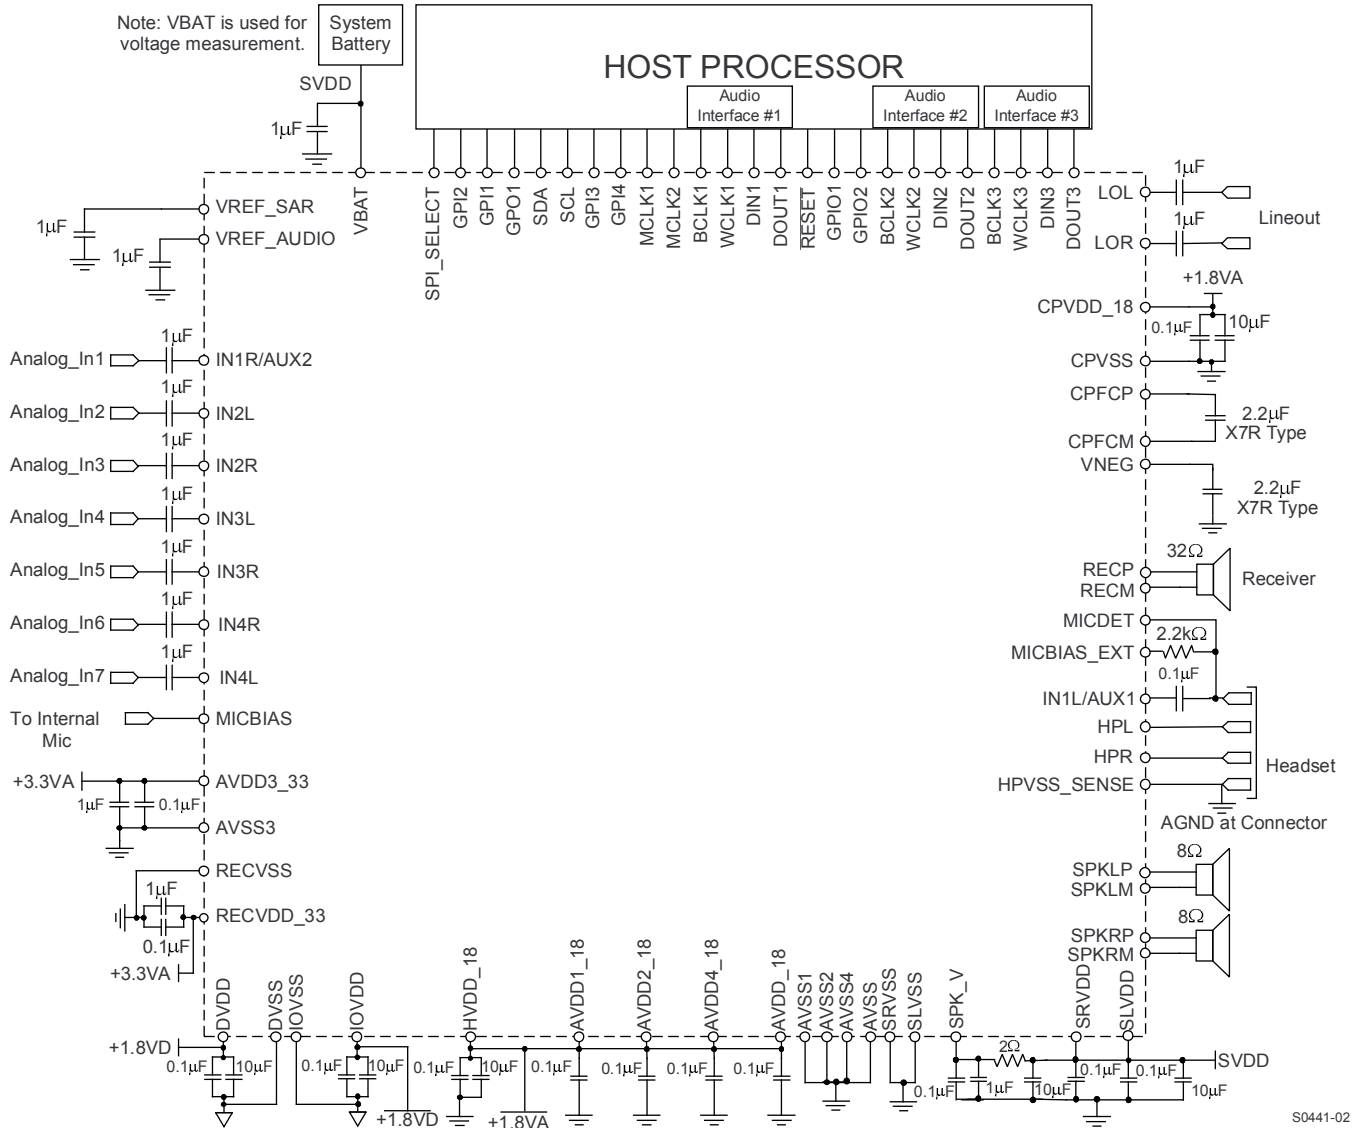

图 33. Typical Circuit Configuration
Figure 33 shows a typical circuit configuration for a system utilizing TLV320AIC3212. Note that while this circuit configuration shows all three Audio Serial Interfaces connected to a single Host Processor, it is also quite common for these Audio Serial Interfaces to connect to separate devices (for example, Host Processor on Audio Serial Interface number 1, and modems and/or Bluetooth devices on the other audio serial interfaces).
- The decoupling capacitors for the power supplies should be placed close to the device terminals. 图 33 shows the recommended decoupling capacitors for the TLV320AIC3212.